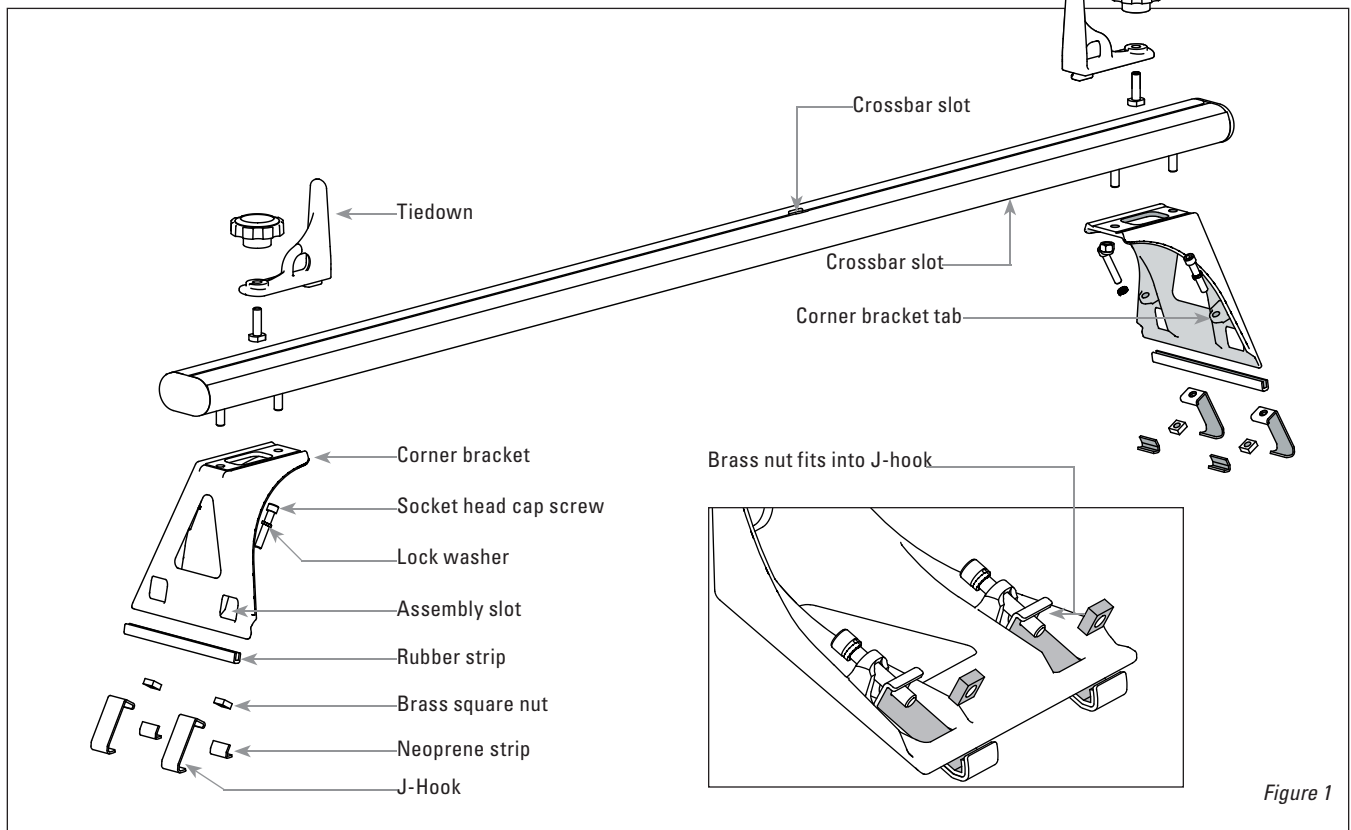

Figure 1
3. Insert 2 (5/16" x 1 3/4" long) Socket Head Cap Screws through the Lock Washers and then into the holes in each Corner Bracket Tab. (See Fig. 1)
4. Insert the J-Hooks with Neoprene Strips through the Assembly Slots at the base of the Corner Bracket. Then insert 2 Brass Nuts into the opening of the J-Hook clips. Thread each screw approx. 1/4 in. into the J-hook's brass nut. (Do not completely tighten screws) Repeat for each Corner Bracket, (2 hooks for each Bracket). (See Fig. 1)